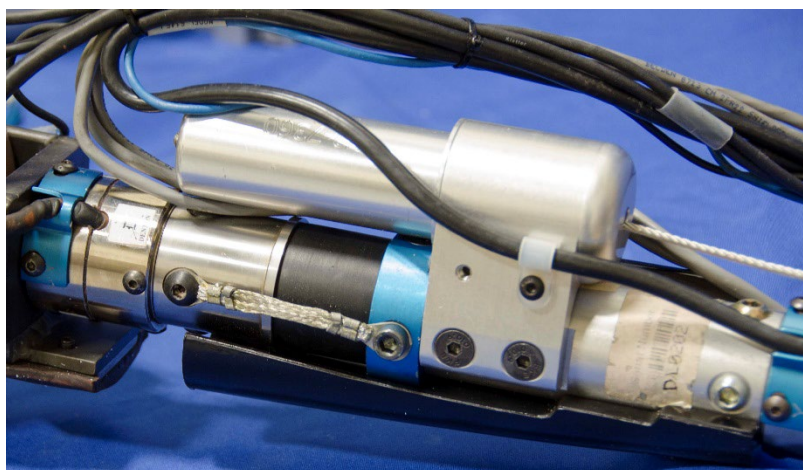

Figure 12-68. Install tibia ground strap
- 12.2.2.49 Install the Tibia Instrumentation Ground Strap (472-8705) (Figure 12-68).